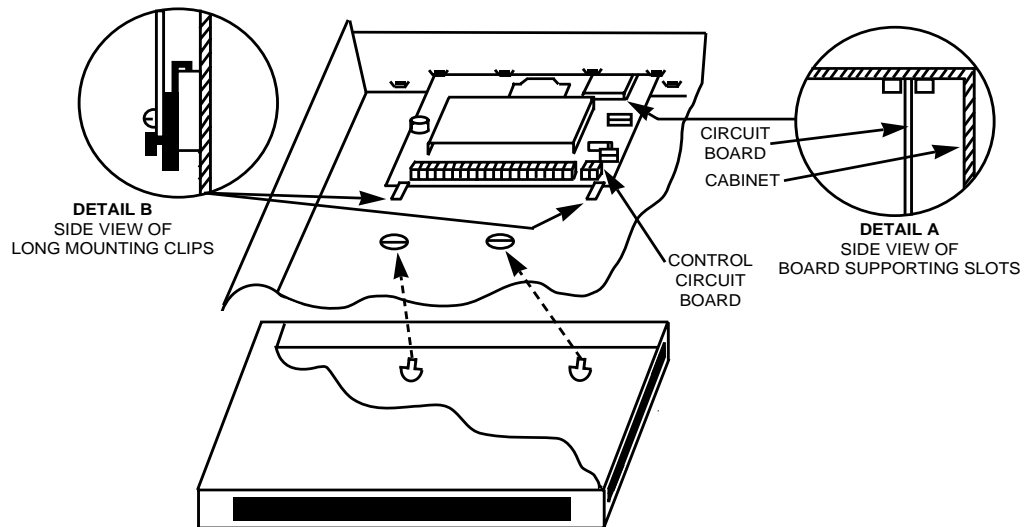

Figure 2. Installing The PC Board in the Cabinet Alone, or (if used), With a 4204 Relay Unit
1. Hang two *long Red* mounting clips (provided) on the raised cabinet tabs (see Detail B in Fig. 2).
2. Insert the top of the circuit board into the slots at the top of the cabinet. Make sure that the board rests on the correct row (see Detail A in Fig. 2).
3. Swing the base of the board into the mounting clips and secure the board to the cabinet with the accompanying screws (see Detail B in Fig. 2).
2. Hang the unit on the screw heads via two of the slotted holes at the rear of its housing, as shown in Figure 2.